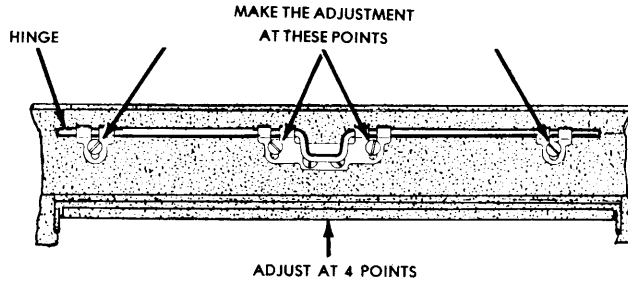

FIGURE 208. TOP COVER HINGE ADJUSTMENT
1. TOP COVER HINGE - The hinge should be adjusted so that the contour of the top cover matches the contour of the center cover (Fig. 208).